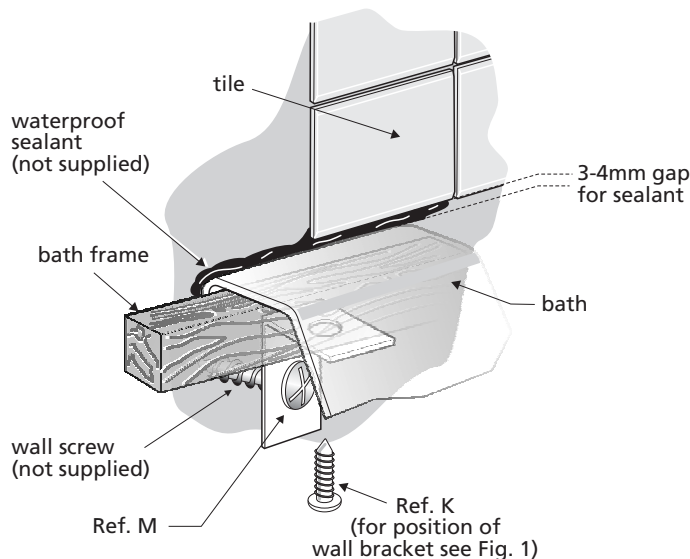

Fig. 6
8. Fix the two wall fixing brackets to bath frame as indicated in Fig. 6. Pilot drill $\varnothing 2\text{mm}$ holes in frame before fixing brackets.
9. Fix bath to wall (Fig. 6)
12. Tile down to the height of the bath rim leaving a 3-4mm gap for waterproof sealant, see Fig. 6. An extruded sealing strip can be used for the bath to wall joint as an alternative to waterproof sealant. Protect bath during tiling.